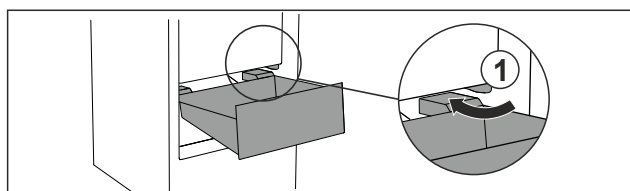

Fig. 27
- Guide drawer in at an angle around the stoppers Fig. 27 (1).